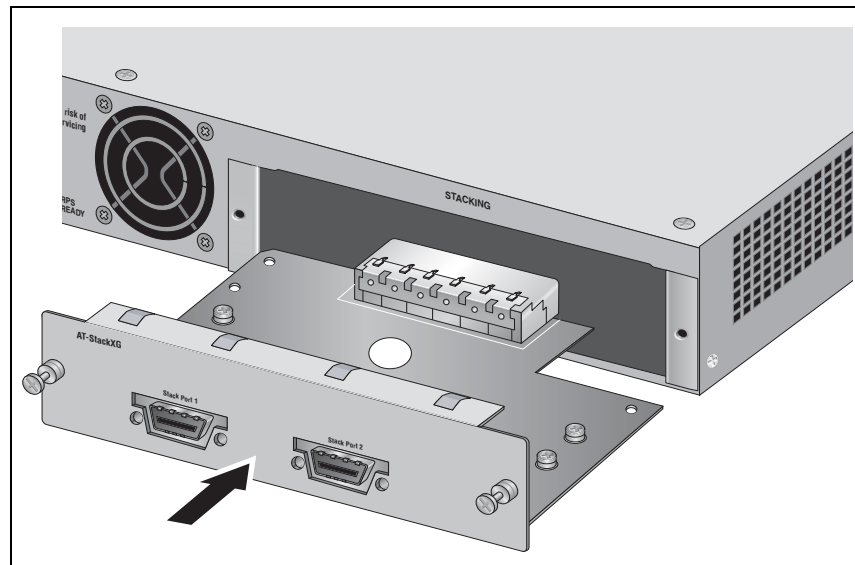
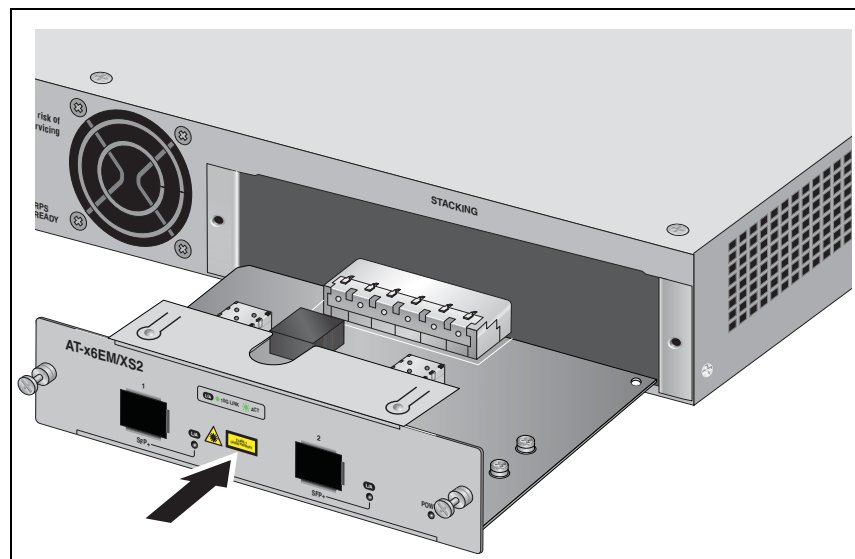

Figure 42. Installing the AT-StackXG Stacking Module
Figure 43. Installing the AT-x6EM/XS2 Stacking Module
3. Align the edges of either the AT-StackXG or AT-x6EM/XS2 stacking module with the guides in the slot and carefully slide the module into the chassis until it is flush with the rear panel of the chassis, as shown in Figure 42 and Figure 43. Light pressure may be needed to seat the module on the connector on the rear panel of the chassis.